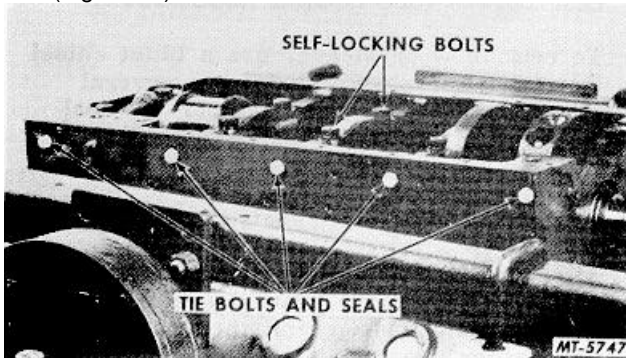

Fig. 81 Main Bearing Cap Bolts, Tie Bolts and Seals
71. Remove self-locking bolts, tie bolts and seal washers from each crankshaft main bearing cap (Figure 81).